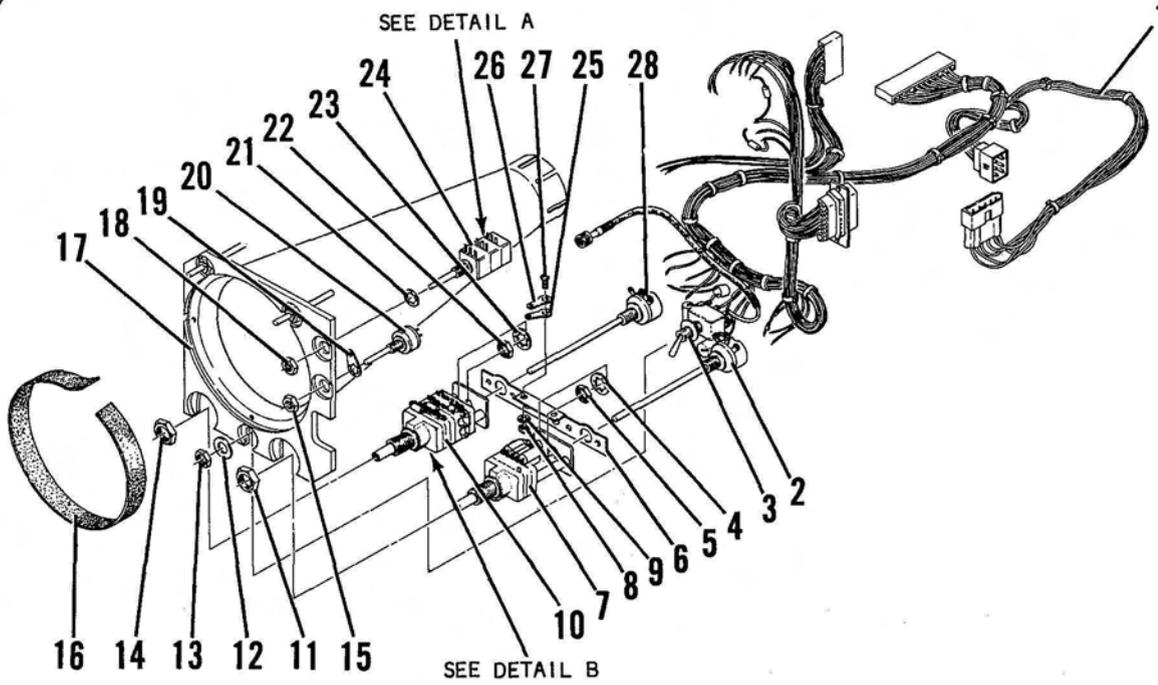

Figure 6-8 Spectrum Analyzer Switches Disassembly and Reassembly
1. Four Phillips screws (14) and four lock washers (13) securing Inverter PC Board cover (5) to frame.
2. Four Phillips screws (6) and four lock washers (7) securing Inverter PC Board to PC board cover (5).
3. Four socket screws (3) and (37) (loosen only) securing control shafts (1) with .050" Allen wrench. Slide control shafts up and off of R4011 and R4014.
4. Inverter PC Board away from frame to gain access to V9201-P1 and P4303 (9).
- M. REMOVAL OF HORIZONTAL SWEEP SWITCH (7) (Fig. 6-8) by removing:
1. Hex nut (11) securing Horizontal Sweep Switch to front panel (17).
2. Hex nut (14) securing Vertical Gain Switch to front panel.
3. Hex nut (13) and lock washer (12) securing AC/OFF/DC Switch to front panel. Rotate entire assembly of switches out away from panel.
5. Hex nut (5) and lock washer (4) securing Potentiometer (2) to switch assembly.
6. Nut (8), lockwasher (9), and screw (27) securing lugs (25) and (26) to mounting channel (6).
8. Switch off Potentiometer shaft (2).
N. REMOVAL OF VERTICAL GAIN SWITCH (10) (Fig. 6-8) by removing:
1. Hex nut (14) securing Vertical Gain Switch to front panel.
2. Hex nut (11) securing Horizontal Sweep Switch to front panel.
3. Hex nut (13) and lock washer (12) securing AC/OFF/DC Switch (3) to front panel. Rotate entire assembly of switches out away from panel.
5. Hex nut (22) and lock washer (23) securing Potentiometer (28) to switch assembly.
7. Switch off Potentiometer shaft (28).
O. REMOVAL OF AC/OFF/DC SWITCH (3) (Fig. 6-8) by removing:
1. Hex nut (13) and washer (12) securing Switch to front panel.
2. AC/OFF/DC Switch and washer (3) from front panel (swivel switch out).
P. REMOVAL OF VERT/ANALY DISPR CONTROL (24) (Fig. 6-8) by removing:
1. Hex nut (18) securing Control to front panel.
2. VERT/ANALY DISP Control and washer (21) from front panel (swivel control out).
Q. REMOVAL OF HORIZONTAL CONTROL (20) (Fig. 6-8) by removing:
1. Hex nut (15) securing Control to front panel.
2. Horizontal Control (20) and lug (19) from front panel (swivel control out).